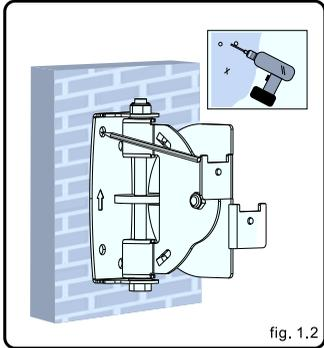

fig. 1.2
- Use the Wall Plate as a template to mark two holes locations on the wall, as shown in fig.1.2.